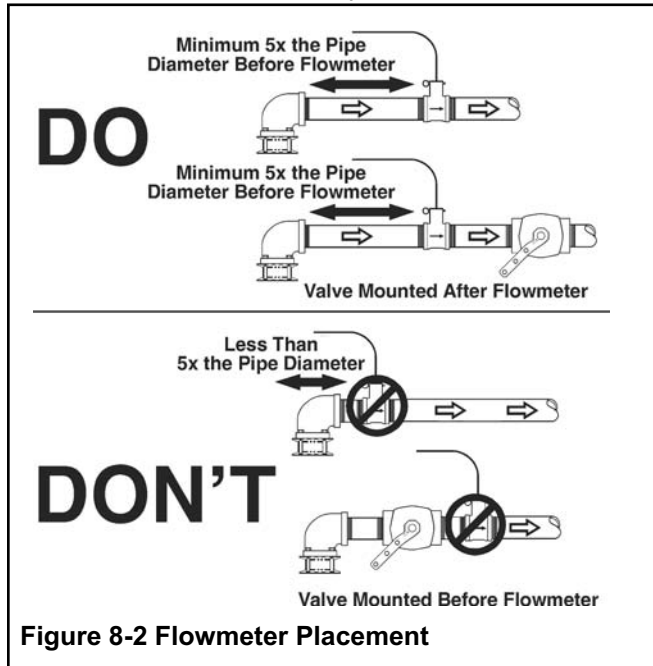

Figure 8-2 Flowmeter Placement
3. **Do not mount a flowmeter directly after an elbow or valve.** Valves create severe turbulence when they are “gated down” as shown in Figure 8-2.